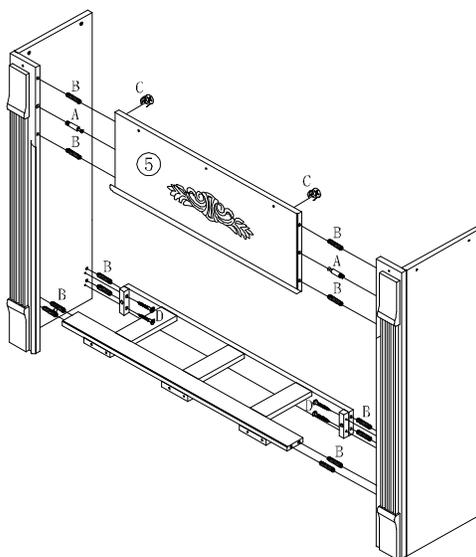

Figure 3
INSERT 2PCS CAM-BOLTS (A), 12PCS WOOD DOWELS (B) INTO PREDRILLED HOLES ON EDGES OF LEFT AND RIGHT FRONT PANELS (3.4), LEFT AND RIGHT SIDE PANELS (6.7) AND FIT INTO CORRESPONDING HOLES ON ENDS OF PARTS (5,11.12). INSERT 2PCS CAM-LOCKS (C) INTO BIG HOLES ON BACK OF MIDDLE FRONT PANEL (5) WITH SLOT FOR SCREWDRIVER FACING OUTWARD. ROTATE CAM-LOCKS (C) CLOCKWISE TO SECURE CAM-BOLTS (A). INSERT 4PCS FLAT HEAD LONG SCREW (D) THROUGH PREDRILLED HOLES ON END OF BACK RAIL (12) AND TIGHTEN INTO CORRESPONDING HOLES ON INSIDE OF LEFT AND RIGHT SIDE PANELS (6&7). AS FIGURE 3 SHOW